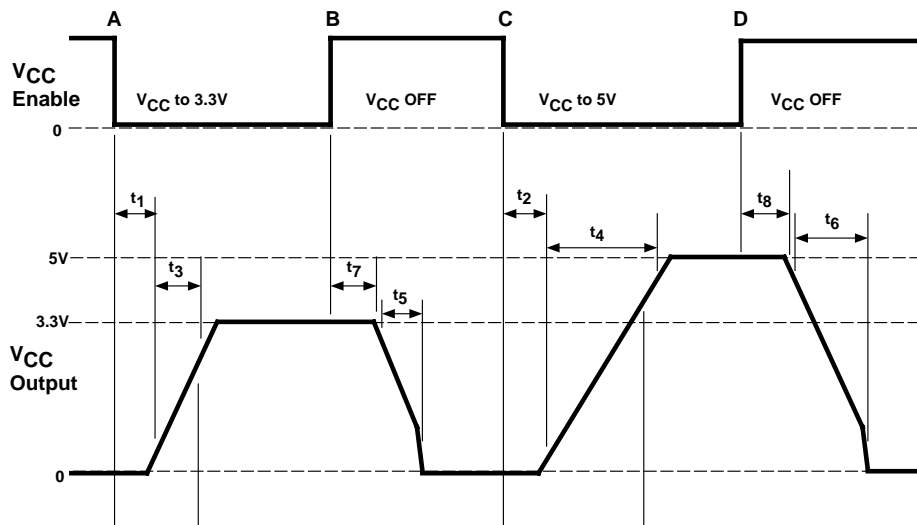

Figure 2. MIC2563A VCC Timing Diagram
**VCC Switching Time** (See Figure 2)